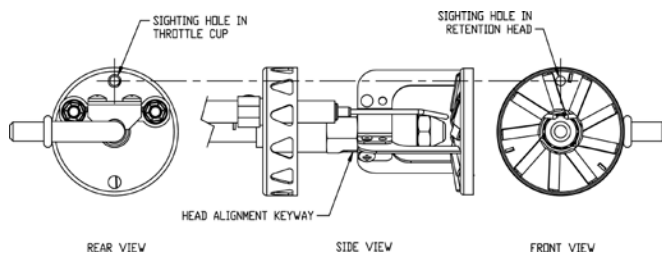

Figure 35: Retention Head/Throttle Cup Alignment
- i. Check retention head alignment. Cad cell sighting holes in the throttle cup and retention head must line up, so the cad cell can see the flame. Make sure that, the “stamped key” in the retention head collar lines up with the “keyway” in the nozzle adapter, when mounting the retention head. See Figure 35.